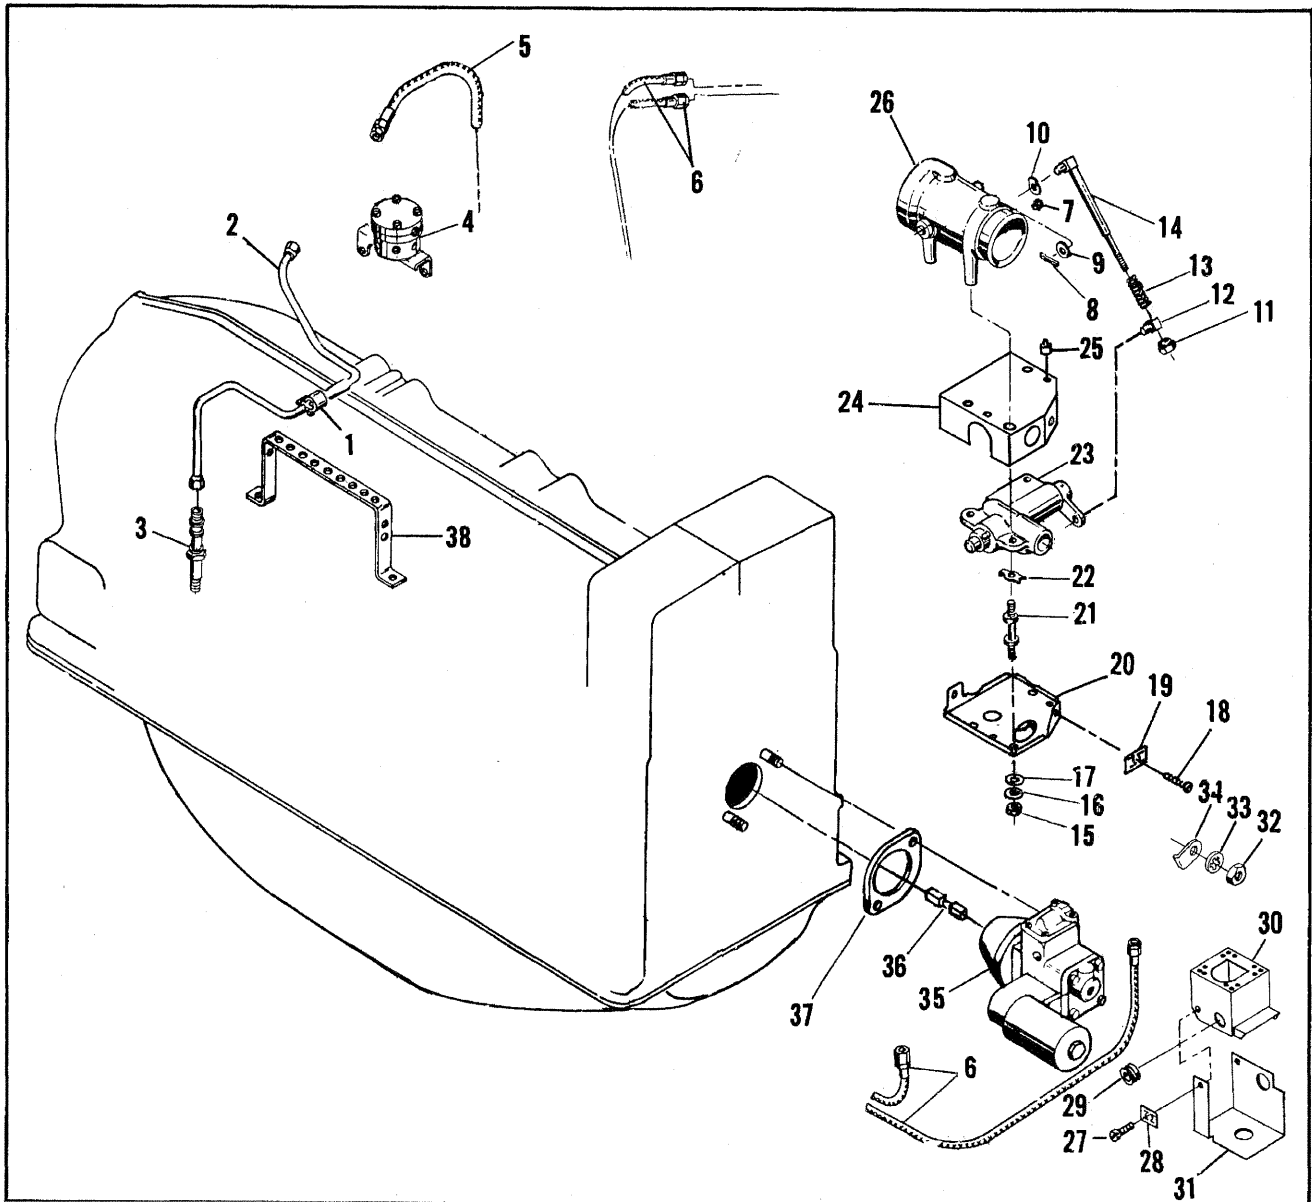

FIGURE 4-6. FUEL INJECTION SYSTEM, TSIO-520-B & E.
**4-14. FUEL INJECTION SYSTEM, TSIO-520-B & E (See Figure 4-6).**
a. Disconnect six fuel discharge tubes (2) from fuel manifold valve (4) and nozzles (3). Compress spring legs of each clamp (1) and remove tubes and clamps. Disconnect hose (5) at fuel manifold valve. Remove nozzles (3) and store in a clean container.
b. Disconnect hose assemblies (5,6) from control unit (23) and hose assemblies (6) from fuel pump (35).
c. To separate control unit (23) from air throttle body (26) remove two sets of cotter pins (8), plain washers (9) and wave washers (10). Remove link rod assembly (11 thru 14). Remove attaching parts (15,16,17 and 18,19) and remove shroud (20). Remove attaching parts (21,22) and separate control unit (23) and shroud (24) from air throttle body (26).
d. Remove two sets of attaching parts (27,28) and separate shrouds (30,31) from fuel pump (35). Disconnect tube (3, Figure 4-6) from fuel pump. Remove attaching parts (32,33,34) and lift fuel pump from crankcase studs. Remove gasket (37) and coupling (36).